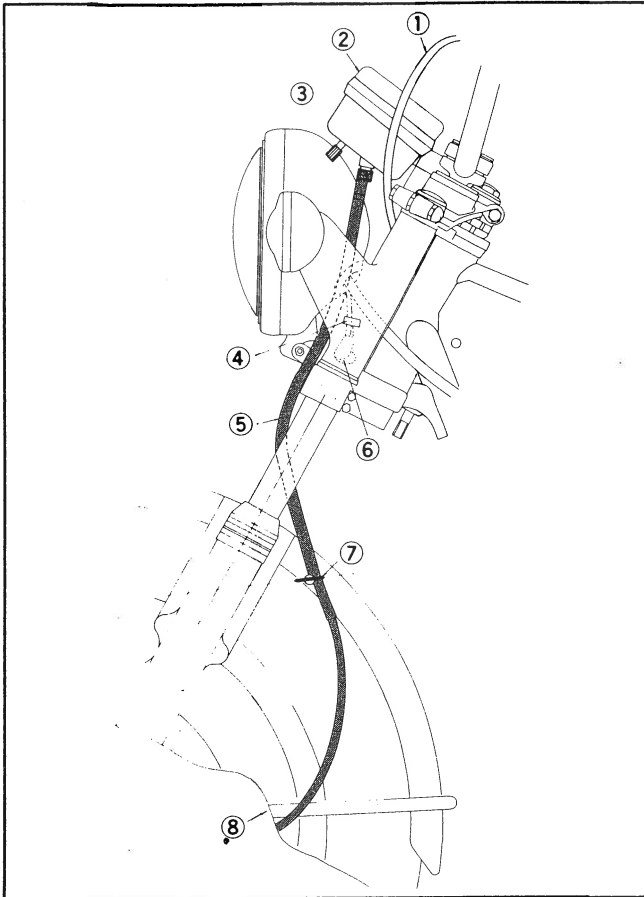

Fig. 29
23. Connect the speedometer cable to the speedometer. For detailed cable routing, refer to illustration. (Fig. 29)